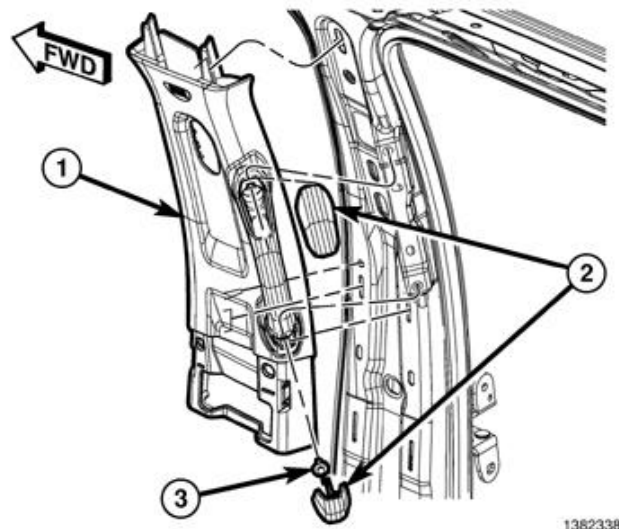

Figure 20 – B-Pillar Upper Trim Panel
9. On the B-pillar, use a small flat-bladed tool to carefully open the two fastener covers (2) located on the grab handle (Figure 20).
11. Using a trim stick C-4755 or equivalent, release the retaining clips that secure the B-pillar upper trim panel (1) then position the trim panel out of the way. It is not necessary to remove the seat belt from the trim panel (Figure 20).
51. Install the B-pillar upper trim panel (1) and engage the retaining clips fully (Figure 20).
52. Install the grab handle bolts (3) and tighten to 5 N·m (44 in. lbs.). Close the fastener covers (2) (Figure 20).